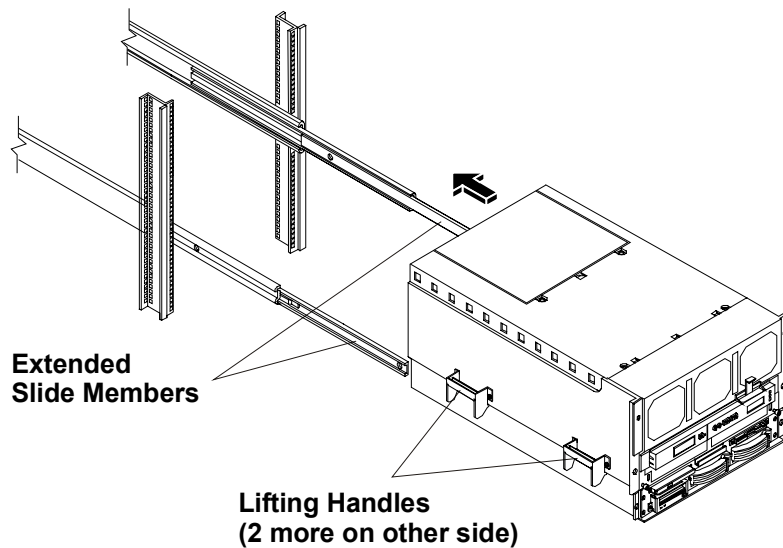
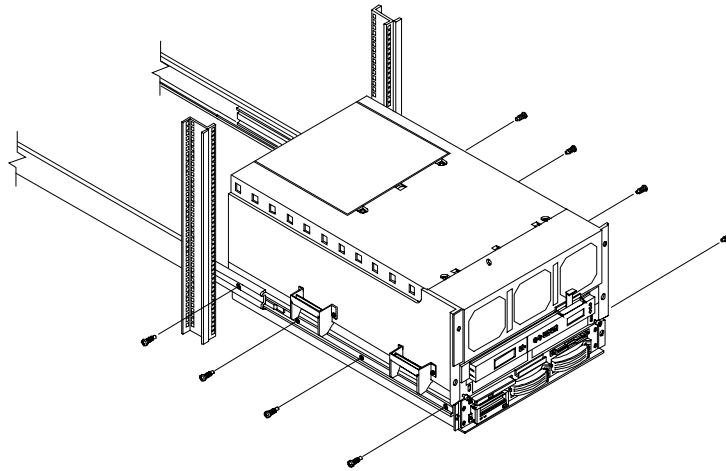

Figure 4-2. Lifting the Server Onto the Slide Members
Figure 4-3. Attaching the Slides to HP NetServer Chassis
1. Verify that both slides are fully extended from the rack, as shown in Figure 4-2.
2. Using at least two people, lift the HP NetServer by using the lifting handles on each side. Move the HP NetServer in between the extended slide members and position it so that the handles are resting on the slide members, as shown in Figure 4-2 and Figure 4-3.
3. Line up the mounting holes in the slide members with the holes in the HP NetServer chassis, insert the four screws on each side and tighten them, as shown in Figure 4-3.